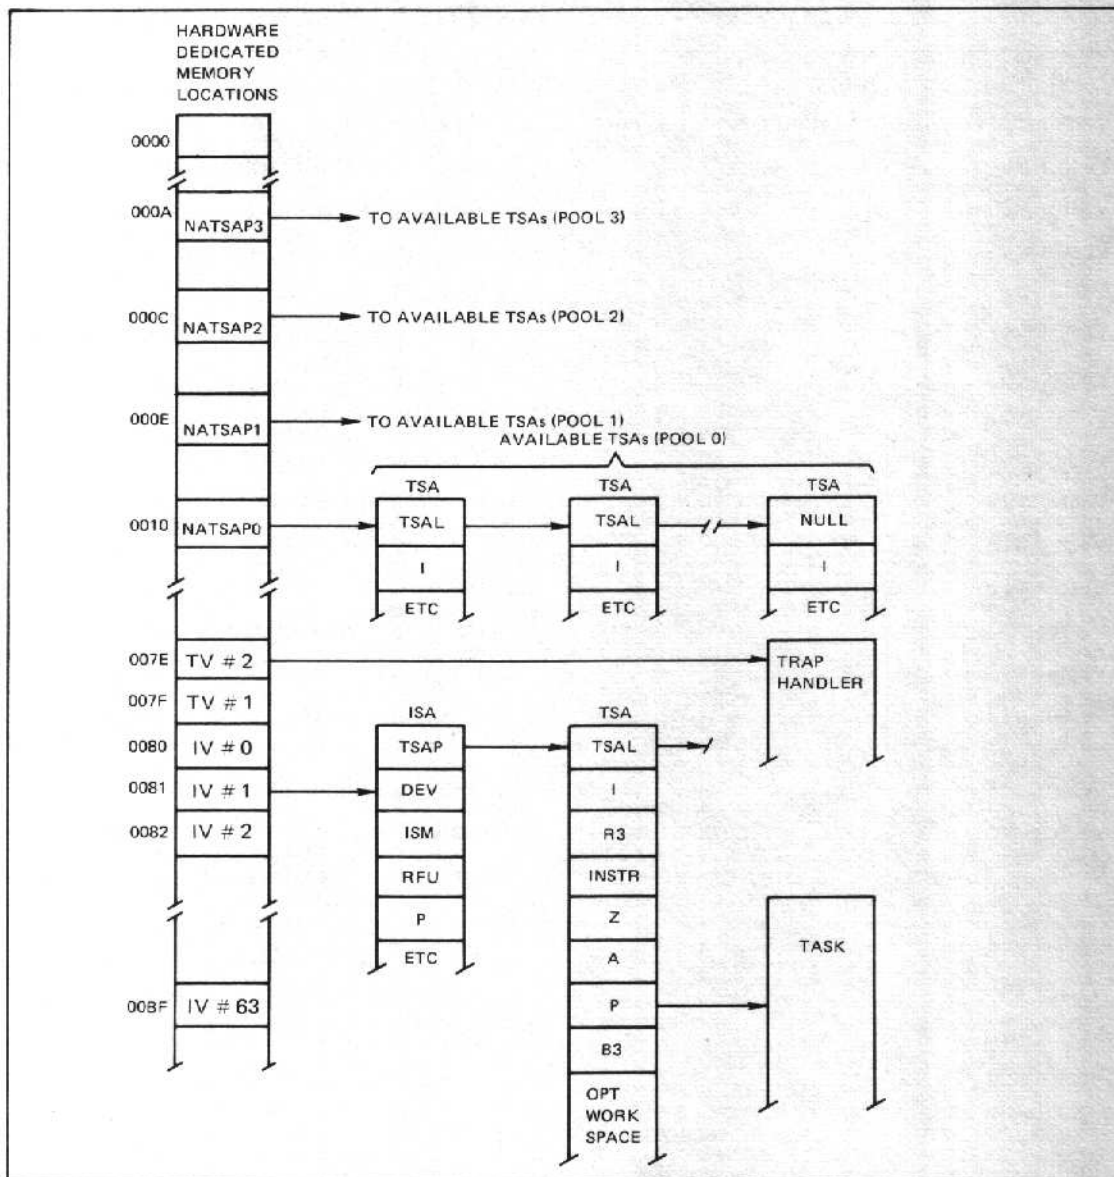

Figure 3-6. Trap Vector and Interrupt Vector Linkage
The relationship of traps and interrupts, and their vector linkage are shown in Figure 3-6.
- o NATSAP – Pointers to Next Available Trap Save Area: Four NATSAPs (NATSAP0 to NATSAP3) are maintained at location 0010 and below. The NATSAP (and TSA pool) that is to be used for the current level is selected by bits 1-3 of ISM2. NATSAP0 at location 0010 is the only TSA pool pointer supported by the Models 23 and 33. Refer to Figure 3-6.
- o TSA – Trap Save Areas: Initially, when processing of an application begins, all trap save areas exist in a linked “pool,” which is pointed to by memory location 00101,6. All trap save areas remain in this pool until a trap condition occurs within a running task, at which point the hardware/firmware (1) stores information in the first available trap save area in the pool, (2) links this trap save area to the interrupt save area for the priority level of the task that was running when the trap occurred, and (3) unlinks this trap save area from the pool. Later, after the trap handler (if any) has completed its
Note that when a trap occurs, if the appropriate trap handler is available in the application, the first word (TSAP) of the interrupt save area (for the current priority level) is set to point to the link word (TSAL) of the trap save area in which hardware/firmware has just stored information relative to the trap (see Figure 3-6). TSAP is subsequently used by the trap handler to gain access to the trap save area.